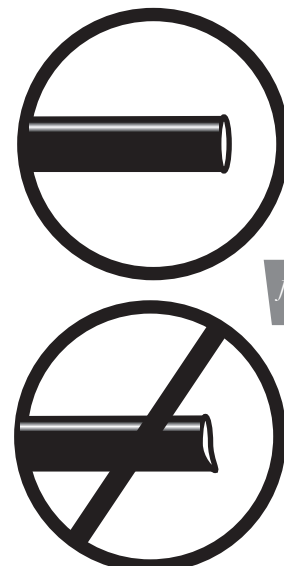

fig. 24
- a. Check the air line connection by deflating the spring and removing the line by pulling the collar against the fitting and pulling firmly on the air line. Trim 1" off the end of the air line. Be sure the cut is clean and square (see fig. 24). Reinsert the air line into the push-to-connect fitting.
2. If the preceding steps have not resolved the problem, call Air Lift customer service at (800) 248-0892.